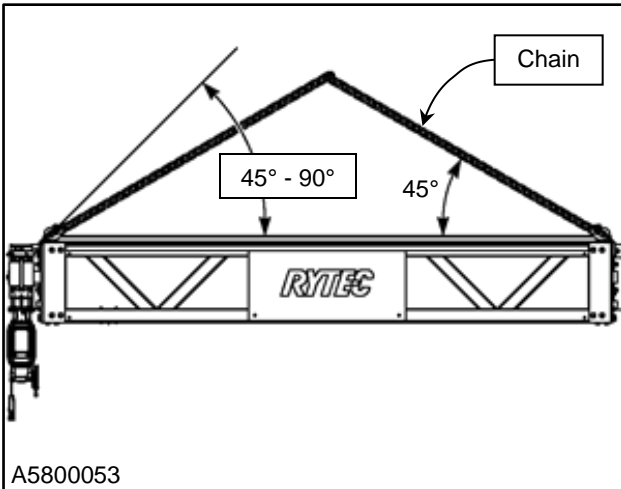

Figure 16
- a. Attach an appropriate rated strap or chain to the lifting lugs of the head assembly. (See Figure 16)